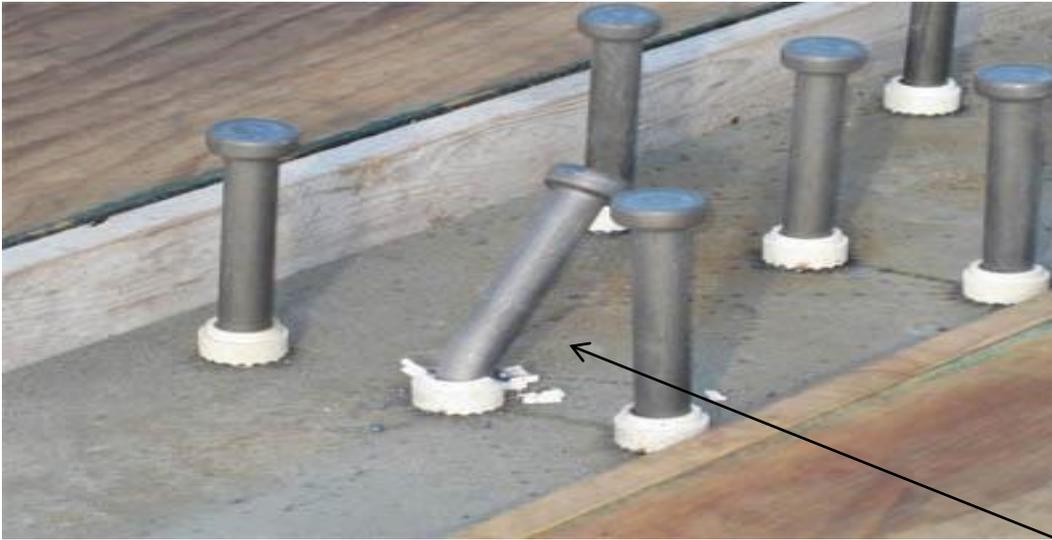

Figure 4
- Testing of Welded Studs At least two studs should be bent in any direction to a 30 degree angle from weld position striking with a hammer or bending with a pipe(refer fig 4) . For deformed bar anchors, bend around a pin the diameter that is equal to twice the diameter of the specimen. If a failure occurs, re-adjust settings and repeat test. Once the setup has been approved, production may be started.